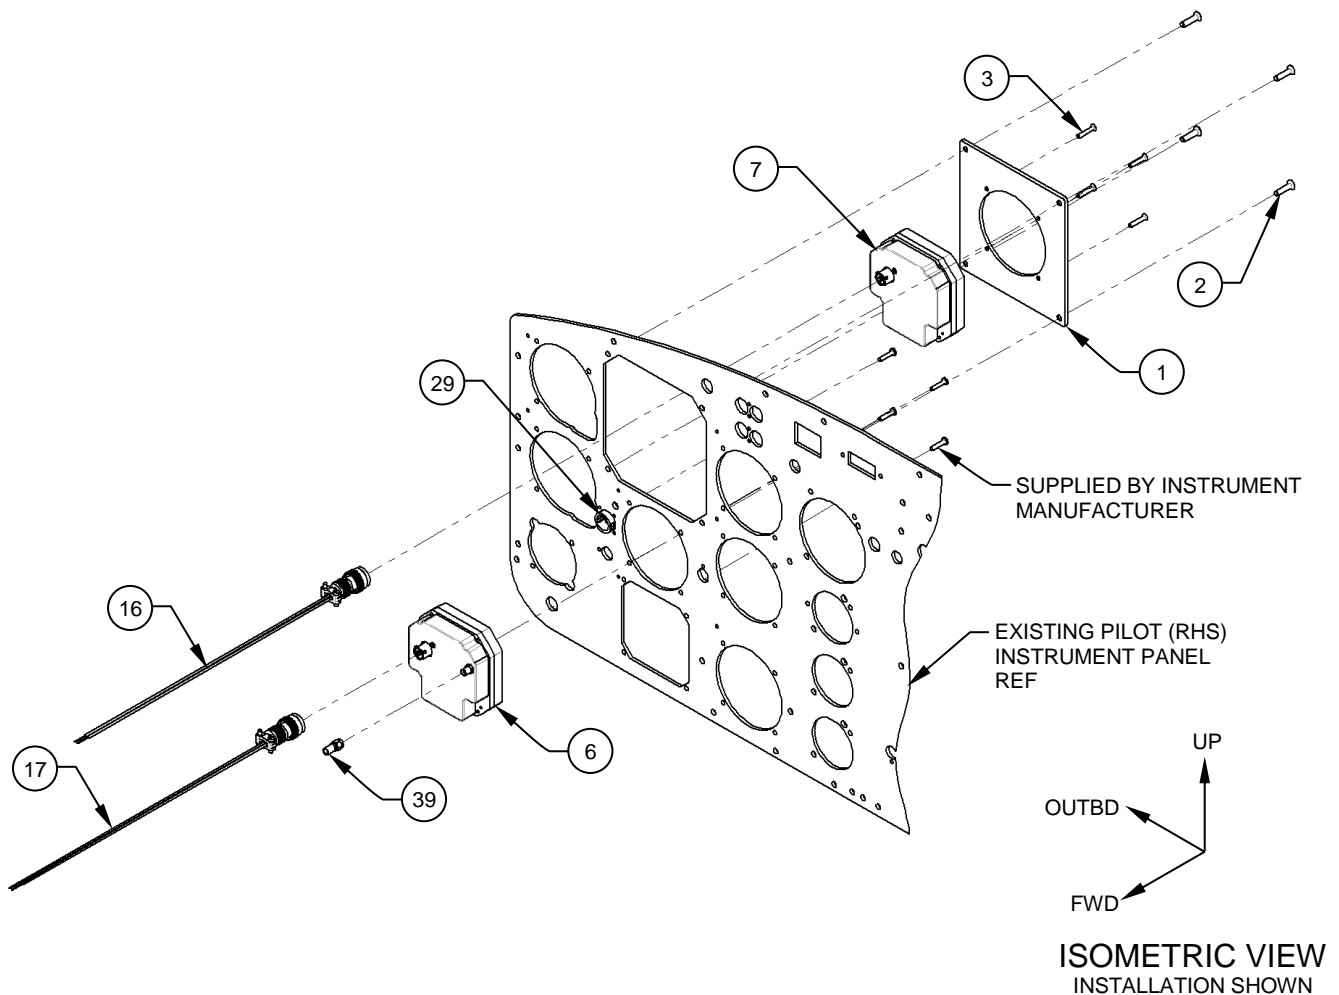

Figure 9
13. Attach the Adaptor, Detail (Item 1) as shown to the pilot (RHS) instrument panel in the location that previously housed the old attitude indicator using the provided fasteners (Items 2 & 3). Reference Figure 9. Install the Heading Indicator (Item 6) in the RHS of the instrument panel in the existing hole that previously housed the old heading indicator. Reference Figure 9.
18. Install Cap-plug, Plastic (Items 29, 30 & 31) in any un-used breaker holes, the compass slaving switch hole the MAG/DG switch hole and the compass slaving indicator hole(s) as applicable. Reference Figure 9.
20. Install the Wiring Harness, Assy (Item 17) by fastening the connector to the back of the pilot Heading Indicator (Item 6) and route the wires as shown. Reference Figures 9, 10 & 11. Cut the un-terminated end of the wires to length and terminate with the provided ring terminals (Items 36 & 37) as per the wiring diagram. Reference Appendix B. Connect the newly terminated ends to the Circuit Breakers (Items 34 & 35) as per the wiring diagram and connect ground wires to existing ground stud or ground block if available. If new ground studs or ground blocks are required, install IAW BHT-ELECT-SPM, Chapter 8. Reference Appendix B.
22. Install the Wiring Harness, Assy (Item 16) by fastening the connector to the back of the pilot Attitude Indicator (Item 7) and route the wires as shown. Reference Figures 9, 10 & 11. Cut the un-terminated end of the wires to length and terminate with the provided ring terminals (Items 36 & 37) as per the wiring diagram and connect ground wires to existing ground stud or ground block if available. If new ground studs or ground blocks are required, install IAW BHT-ELECT-SPM, Chapter 8. Reference Appendix B. Connect the newly terminated end to the Circuit Breakers (Items 34 & 35) as per the wiring diagram. Reference Appendix B.